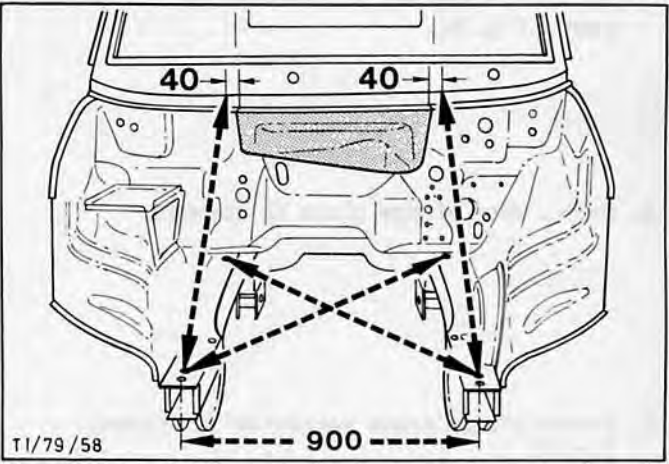

Fig.94. Measure up side member section.
17. Measure up side member section, Fig.94, bring into correct installation position and clamp.